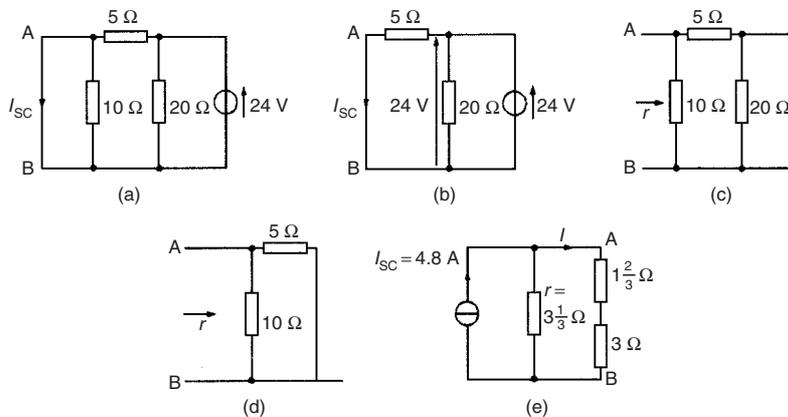

Figure 13.60
- (i) The branch containing the $3\ \Omega$ resistance is short-circuited as shown in Fig. 13.60(a)
- (ii) From the equivalent circuit shown in Fig. 13.60(b),
(iii) If the $24\ V$ source of e.m.f. is removed the resistance 'looking-in' at a break made between A and B is obtained from Fig. 13.60(c) and its equivalent circuit shown in Fig. 13.60(d) and is given by:
(iv) From the Norton equivalent network shown in Fig. 13.60(e) the current in the $3\ \Omega$ resistance is given by: